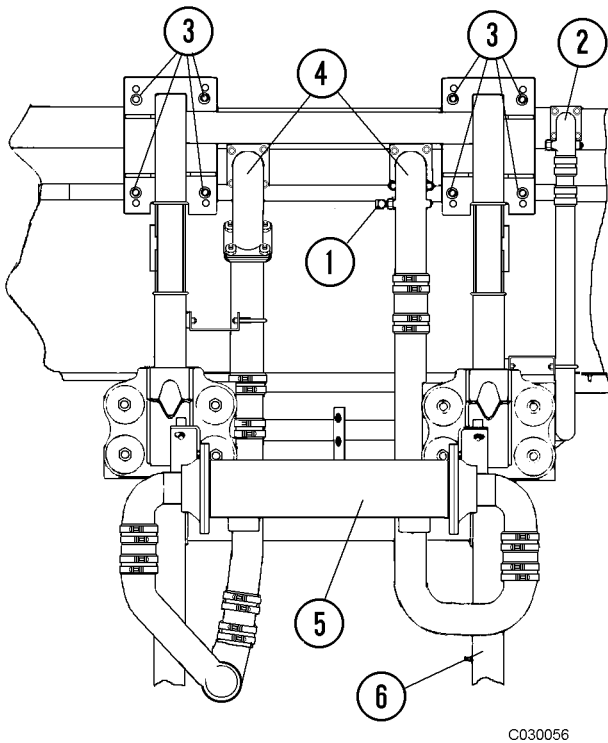

FIGURE 3-3. RADIATOR PIPING, BOTTOM VIEW
6. Remove outlet elbows (2, Figure 3-3) and (4) at the bottom tanks. Cap all coolant lines to prevent contamination.
11. Remove radiator mounting hardware (4, Figure 3-3) that secures the radiator and to the power module subframe.
11. Install outlet elbows (2, Figure 3-3) and (4) with new gaskets.